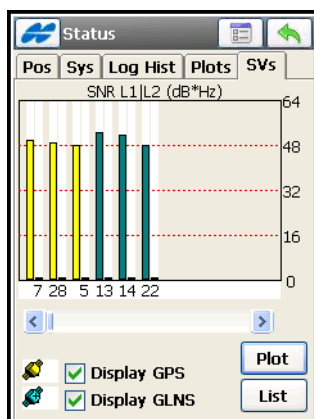

Figure 8-21. Status – SVs SNR
- **SNR** – toggles the appearance of the screen to a table displaying the signal-to-noise ratio of each of the satellites (Figure 8-21).
- **Back** – return to the sky plot view (Figure 8-21 on page 8-24).